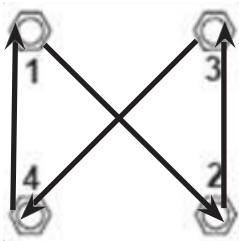

Figure 7- 4-Bolt Tightening Pattern
! To torque bolts, tighten in the following increments using the tightening pattern in Figure 7: 50%, 75%, then Full Torque.
2. After the blade pitch angles have been set on both blades within 0.3° of each other, torque bolts following the symmetrical pattern in Figure 7 and tighten each bolt 1/8 to 1/4 turn at a time. Checking blade pitch at each torque interval.